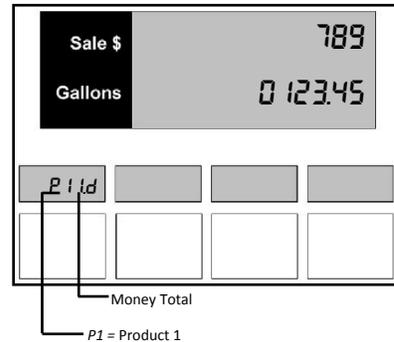

Figure 26.1 – Product 1 Money Total
1. Press the number **2** and **6**, then the **Mode** button on the keypad. The main display appears similar to *Figure 26.1*.
- a. The main display shows the total money amount. For example, if the total money amount for the dispenser is \$7,890,123.45, the display appears as in *Figure 26.1*.